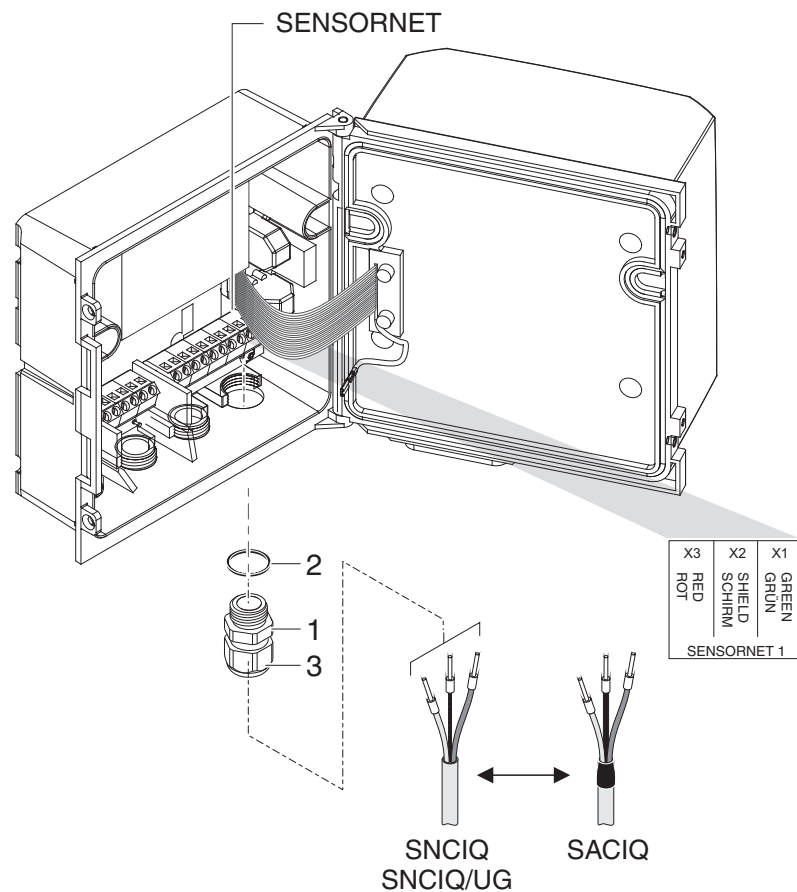

Fig. 3-3 Connecting the cable (example DIQ/S 28XCR3)
- 2 Screw the cable gland (no. 029 212, pos. 1 in Fig. 3-3) with the sealing (pos. 2) into the housing at the mounting position for the SENSORNET connection (see label on the bottom of the housing)
- 3 Loosen the cap nut (pos. 3 in Fig. 3-3).
- 6 Tighten the cap nut (pos. 3 in Fig. 3-3).